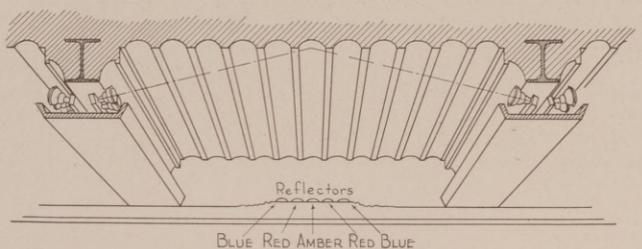

Fig. 7. A suggestion for creating unique lighting effects upon fluted ceiling
**Other Treatments:** Some theatres, especially some of the smaller ones, are designed with beam ceilings. Fig. 7 illustrates a method of providing effective lighting for decoration and illumination, when a fluted ceiling is used. Reflectors with a concentrated distribution of light are concealed in built-up beams, and aimed so as to direct light across the flutes. Beams of light projected parallel with the flutes from a group of reflectors located in the cen-